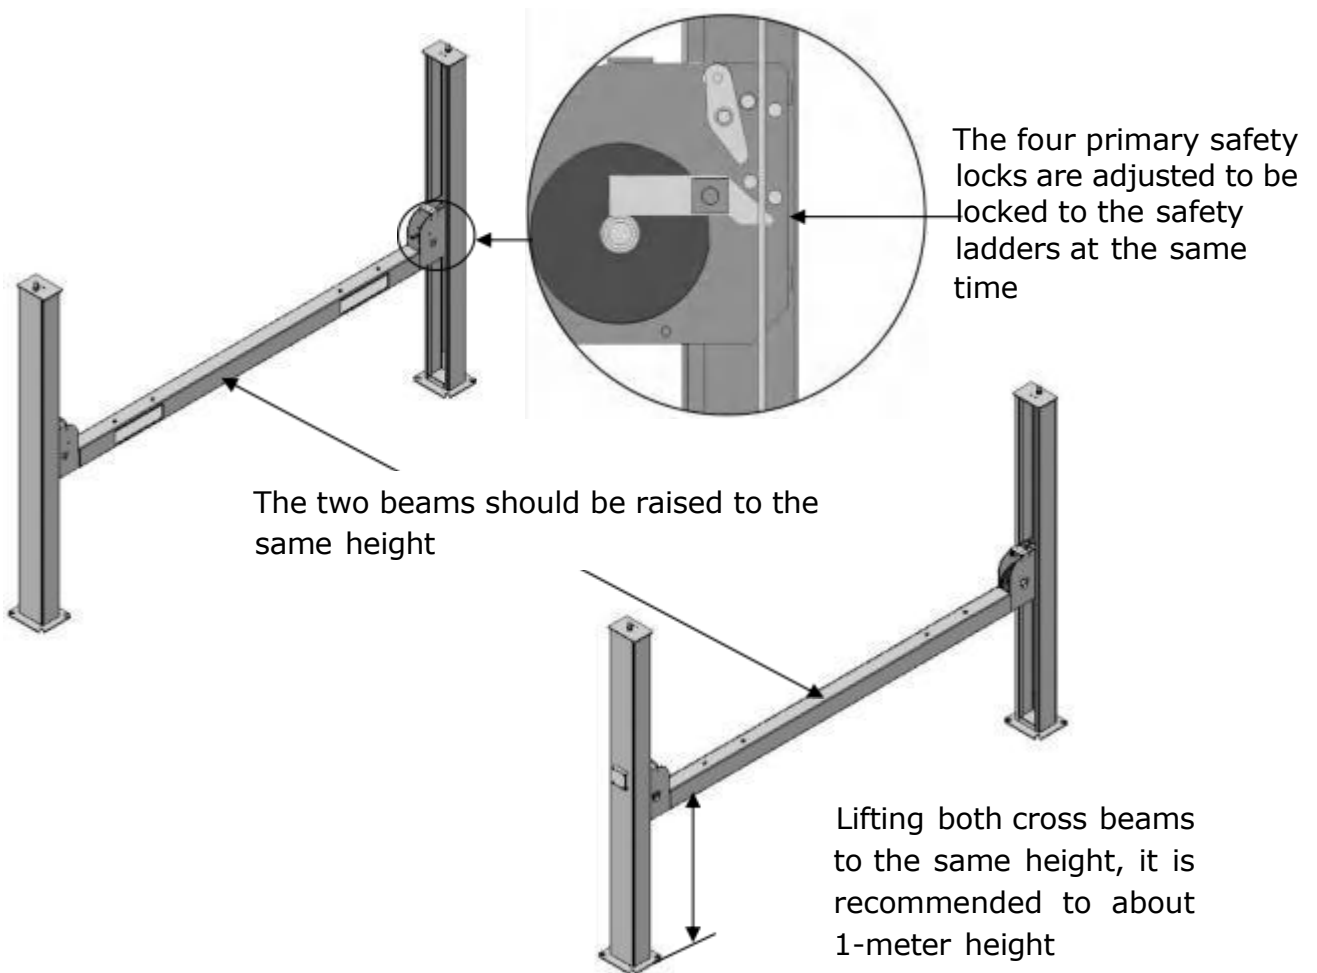

Fig. 19
G. Put the cross beams at the same height (See Fig. 19).